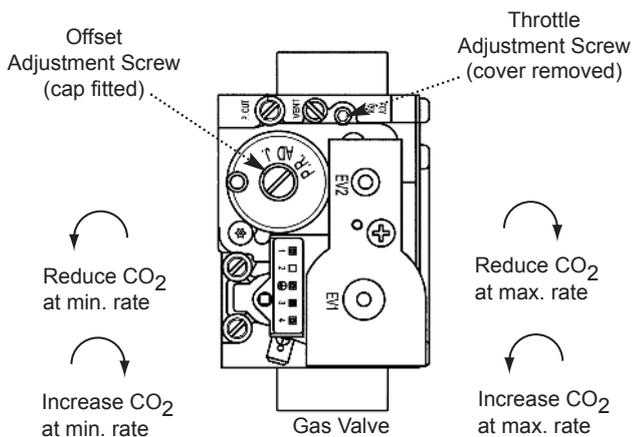

Fig. 61
4. Check the CO₂ is 9.3% ±0.1%. If the CO₂ is incorrect alter the Throttle Adjustment Screw (Fig. 61). Turn the screw anticlockwise to increase the CO₂ or clockwise to decrease (2.5mm hexagon key).
6. Check the CO₂ is 8.9% ±0.1%. If the CO₂ is incorrect alter the Offset Adjustment Screw (Fig. 61). Turn the screw clockwise to increase the CO₂ or anticlockwise to decrease (4mm hexagon key).